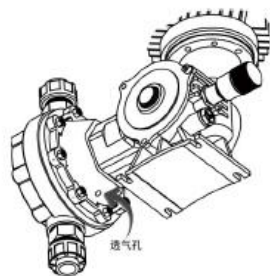

Figure 13
- ◆ There is an air vent on the side of the transition section. This air vent must be on the bottom side during installation. Block and wrong position of the air vent may cause damage to metal parts on the back of the metering pump or oil leakage. Please confirm whether the installation direction is correct during installation. (See figure 13).